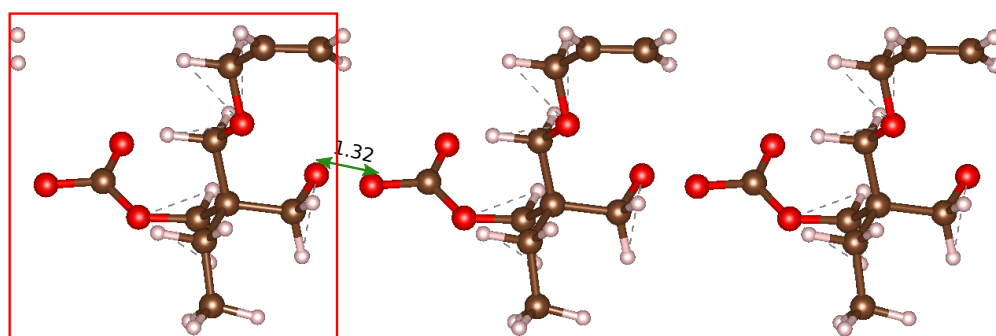

FIGURE 5.1: Polymer chain model for [*]OCC(CC)(COCC=C)COC(=O)O[*]
- Sometimes VESTA doesn't show a bond between two atoms even if they are at an acceptable distance (see Figure 5.1). If VESTA shows a broken chain, calculate the distance between two atoms. If required, add another unit cell and verify the model again.